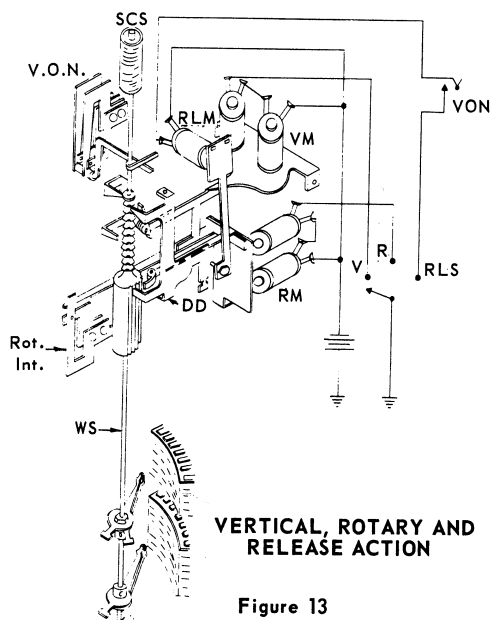

Figure 13
At the termination of the call a release circuit is closed as shown in Fig. 12. The release magnet (RLM) actuates an arm which dis-engages DD from WS. A latching arrangement (RL), then holds DD in this condition until the first vertical pulse on the next call. The release circuit passes through off-normal springs on the vertical action so that RLM is automatically de-energized when WS returns to normal. The coiled spring (SCS) rotates WS to normal in the reverse rotary direction and gravity returns WS to normal in the downward vertical direction. All of these actions are shown together in Fig. 13.